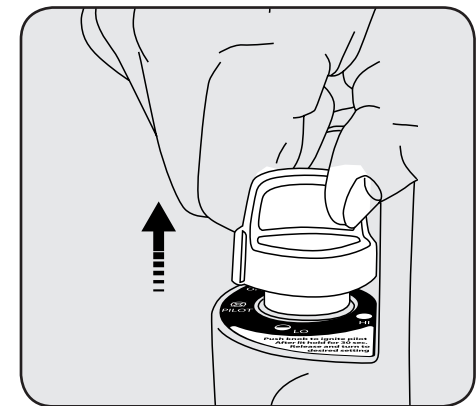

Figure 5
8. After lighting pilot, release knob. Knob should return to fully extended position. See Figure 5.
10. After left burner tile has turned bright orange, adjust heat output by turning Control Knob to desired position ("LO", "MD" or "HI"). Note: Both tiles turn orange only on HI setting. **(2) 1 LB. propane bottles are needed to use heater in (HI) position.**
9. After lighting pilot, release knob. Knob should return to fully extended position. See Figure 5.